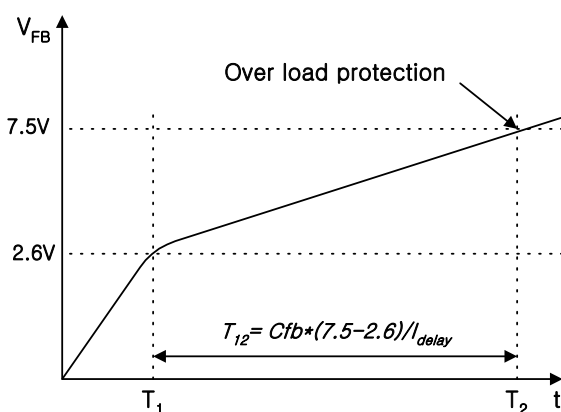

Figure 19. Over Load Protection
Overload means that the load current exceeds a pre-set level due to an abnormal situation. In this situation, the protection circuit should be activated to protect the SMPS (Switch Mode Power Supplies). However, even when the SMPS is in normal operation, the over load protection circuit can be activated during the load transition. To avoid this undesired operation, the over load protection circuit is designed to be activated after a specified period to determine whether it is a transient situation or an overload situation. Because of the pulse-by-pulse current limit capability, the maximum peak current through the SMPS is limited, and therefore the maximum input power is restricted with a given input voltage. If the output consumes beyond this maximum power, the output voltage (V_o) decreases below the set voltage. This reduces the current through the opto-coupler diode which also reduces opto-coupler transistor current increasing V_{fb} . If V_{fb} exceeds 2.6V, D1 is blocked and the 5mA current source starts to charge C_{fb} slowly compared to when the 0.9mA current source charges C_{fb} . In this condition, V_{fb} continues increasing until it reaches 7.5V, and the switching operation is terminated at that time as shown in Figure 19. The delay time for shutdown is the time required to charge C_{fb} from 2.6V to 7.5V with 5mA. When C_{fb} is 10nF (103), T12 is approximately 9.8ms and when C_{fb} is 0.1mF (104), T12 is approximately 98ms. These values are enough to prevent SMPS from being shut down during transient situations.